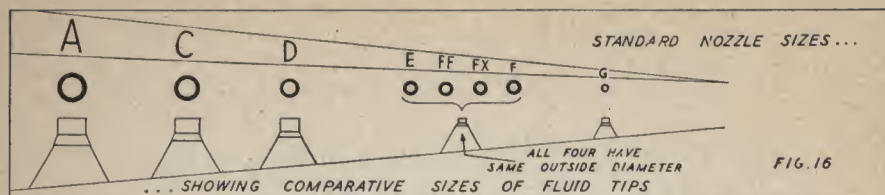

FIG. 16
Standard sizes are as follows: A-C-D-E-FF-FX-F-G. (See Fig. 16.)
Sizes E-FF-FX-F (Fig. 16) are most generally used.
1. Heavy, coarse or fibrous materials require large nozzle sizes (Fig. 16), to permit passage of the material and prevent clogging.